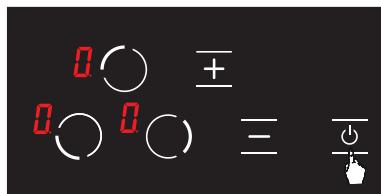

Figure 11
1. **⊕** Turn the stove on by pressing the button. (See Fig. 11)